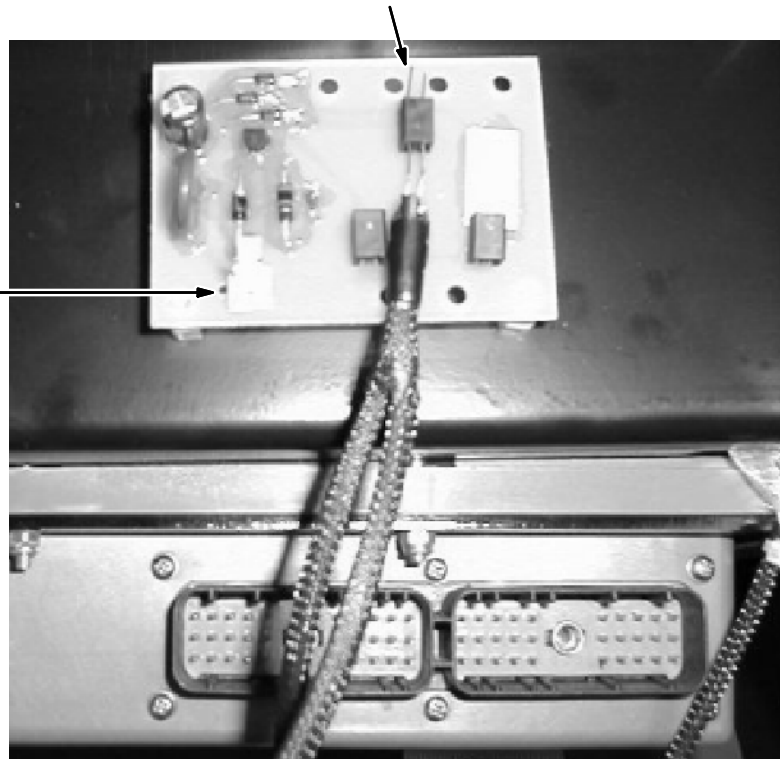

FIG. 2 - POWER SUPPLY CIRCUIT BOARD
3. Remove the two wire connector (1 green, 1 black) from the power supply circuit board. (Refer to FIG. 2)
6. Remove the control panel fiber optic wire from the power supply circuit board. (Refer to FIG. 2)